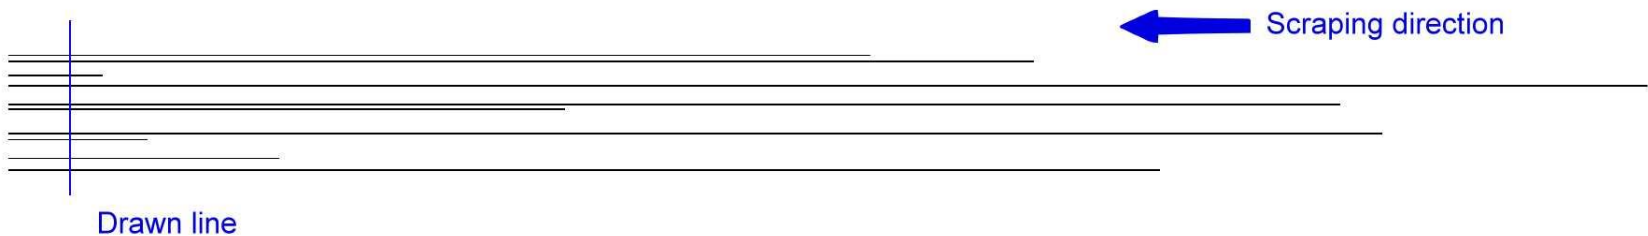

Figure 4 Fabricating debris defects cause fewer scratches near the beginning of the scraper's path. More scratches will be observed near the end.
- Apply firm pressure and push the scraper completely across the glass. [Figure 4]